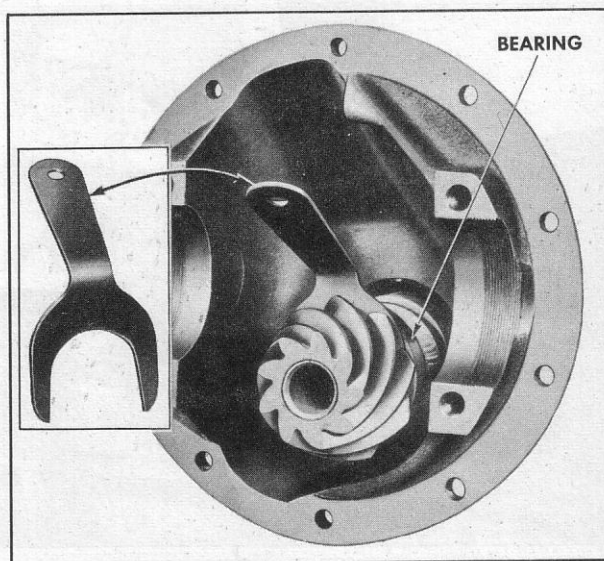

Fig. 27—Checking Pinion to Bearing Clearance
3. Install pinion assembly, driving it down until bearings are seated in the housing, using spacer Tool J-4050 to provide proper pinion to bearing clearance (fig. 27).